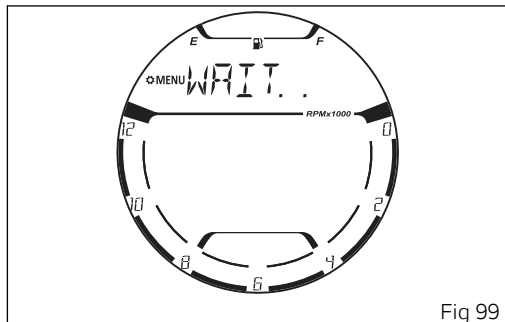

Fig 99
To confirm deletion press button (4). The display shows "WAIT..." (Fig 99) and then goes back to the Bluetooth function with the number and list of updated devices.